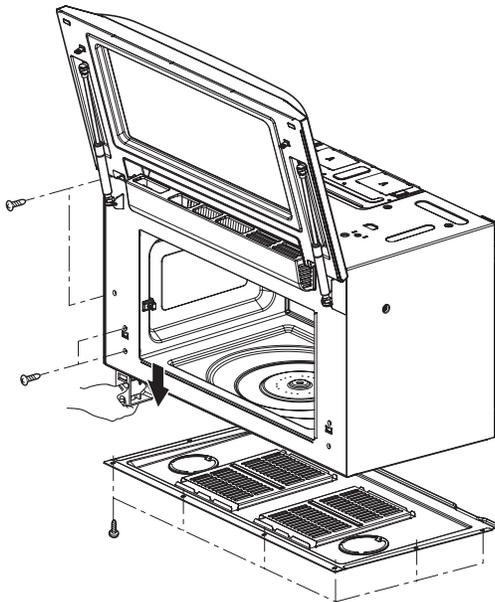

Figure 1
### A. REMOVING POWER AND CONTROL CIRCUIT BOARD (Figures 1, 2 and 3)
- (1) Remove screws on the base plate.(Figure 1)
- (2) Remove the screws on the left side of front cavity. (Figure 1)
- (3) Release latch board from cavity and pull down it. (Figure 1)